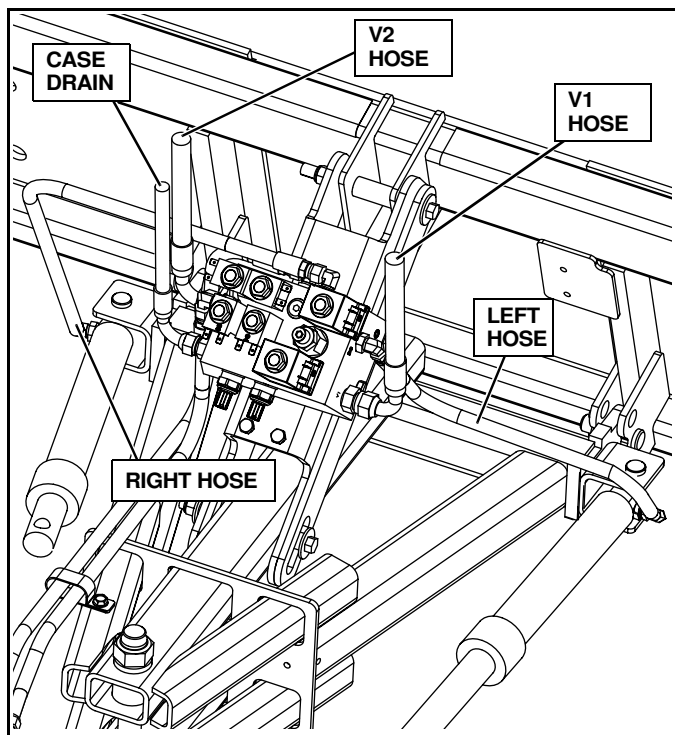

Figure 2-11
6. REVHDSKD Only: Connect right (passenger side) angle cylinder to the hose from the port marked PS. Connect the left (driver side) angle cylinder to the hose from the port marked DS. (See Figure 2-11)
7. REVHDSKD only: Connect couplers to end of the auxiliary hydraulic hoses. These hoses are connected to the ports marked V1 and V2. (See Figure 2-11)
8. REVHDSKD Only: connect a coupler to the hose the comes from the port marked CD (Case Drain). This hose drains the excess overflow to the skid steer case drain. (See Figure 2-11)